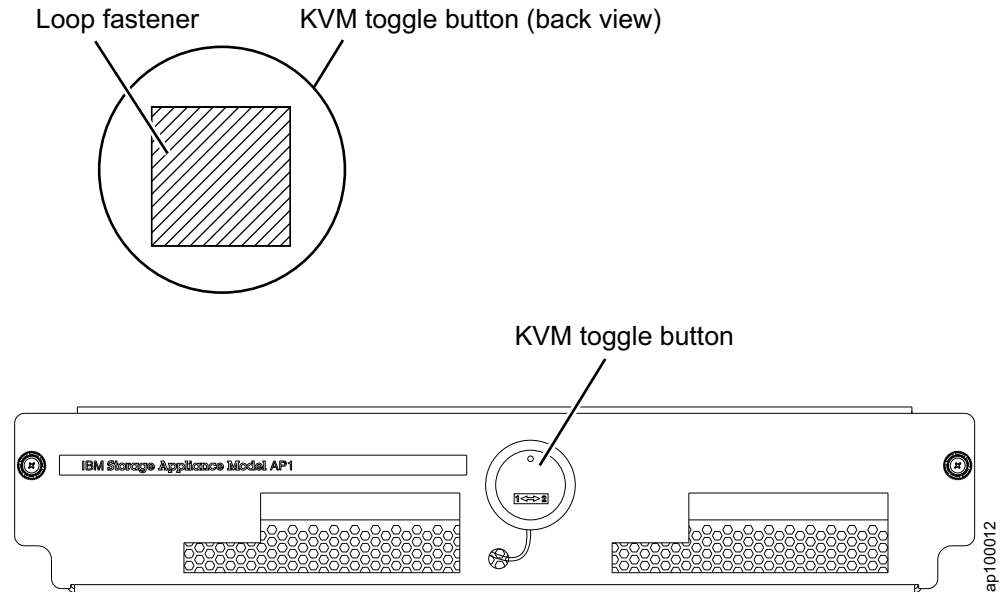

Figure 11. KVM toggle button (back view) and location on front panel of the IBM Storage Appliance 2421 Model AP1 tray
14. Press the replacement KVM toggle button firmly on the hook-and-loop fastener on the front of the tray. (Figure 11 on page 30)